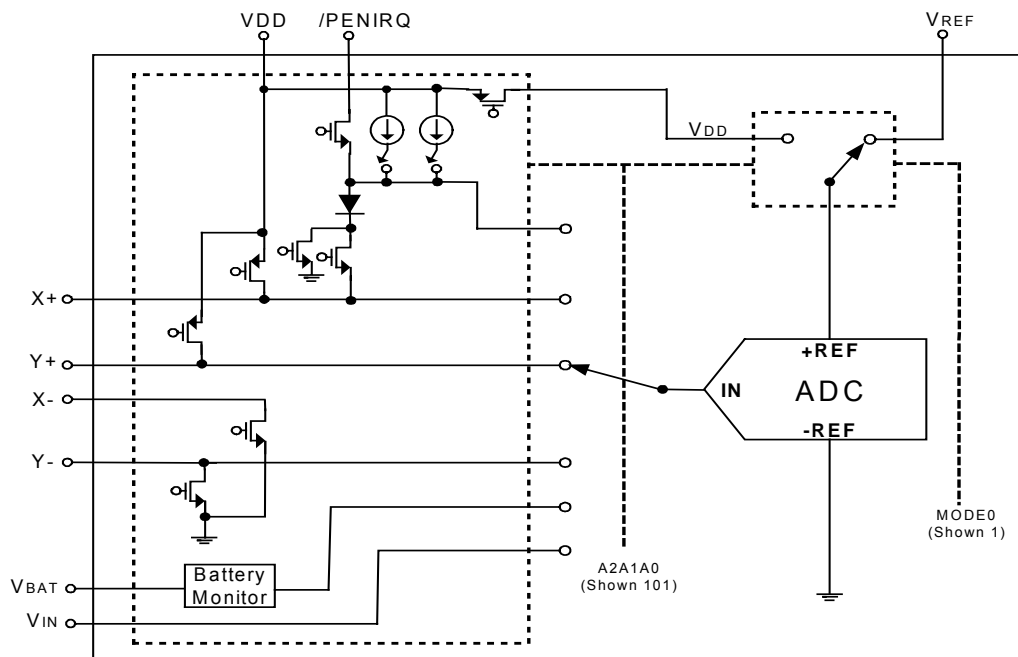

Figure 5. Diagram of Input Channel and Reference Input
The SS7646 contains six channel inputs, a serial interface and low on-resistance switches for the touch screen (see Block Diagram). The input to the converter is selected via the six-channel multiplexer as shown in Figure 5.
The next three bits on control byte (A2, A1, A0) select the active input channel of the input multiplexer (see Table III, and Figure 5), and touch screen drivers.
The Mode bits (Mode1, Mode0) set the resolution of the analog-to-digital (ADC) converter. With the Mode1 bit LOW (0) the following conversion will have 12 bits of resolution. With the Mode1 bit HIGH (1) the following conversion will have 8 bits of resolution. The MODE0 bit set the reference input of the ADC (see Reference Input section and Figure 5). Table IV shows detailed information of the Mode Bits.
The SS7646 contains 6 channel inputs. X+, Y+ and Y- inputs are for touch screen measurement, 2 auxiliary inputs are V_{BAT} and V_{IN} . The diode input (internal node) is for temperature measurement. Figure 5 shows a diagram of the analog input channel and reference input. The input to the A/D converter is selected via the six-channel multiplexer. (see Block Diagram and Figure 5.)
Table III shown the input channel configuration of the SS7646. The control bits are set via the DIN pin. (see Control Byte section). The selected channel is for A/D converter input. Please refer to Figure 5 for detailed input channel multiplexer. For measuring X+ (Y-position) and Y+ (X-position), Y switches and X switches are turned on respectively.
The voltage difference between +REF and -REF (shown V_{REF} in Figure 5), in the range of 1V to + V_{DD} , sets the Analog-to-Digital converter (ADC) input range. The full-scale analog input range of the SS7646 is therefore from 0 to V_{REF} .